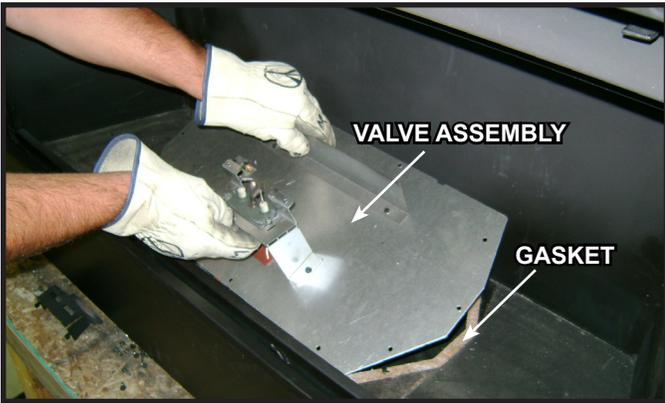

Figure 16.6 Remove Valve Plate
2. Lift the valve assembly from the back so that the gas valve can clear the valve plate hole in the bottom the firebox. See Figure 16.6.